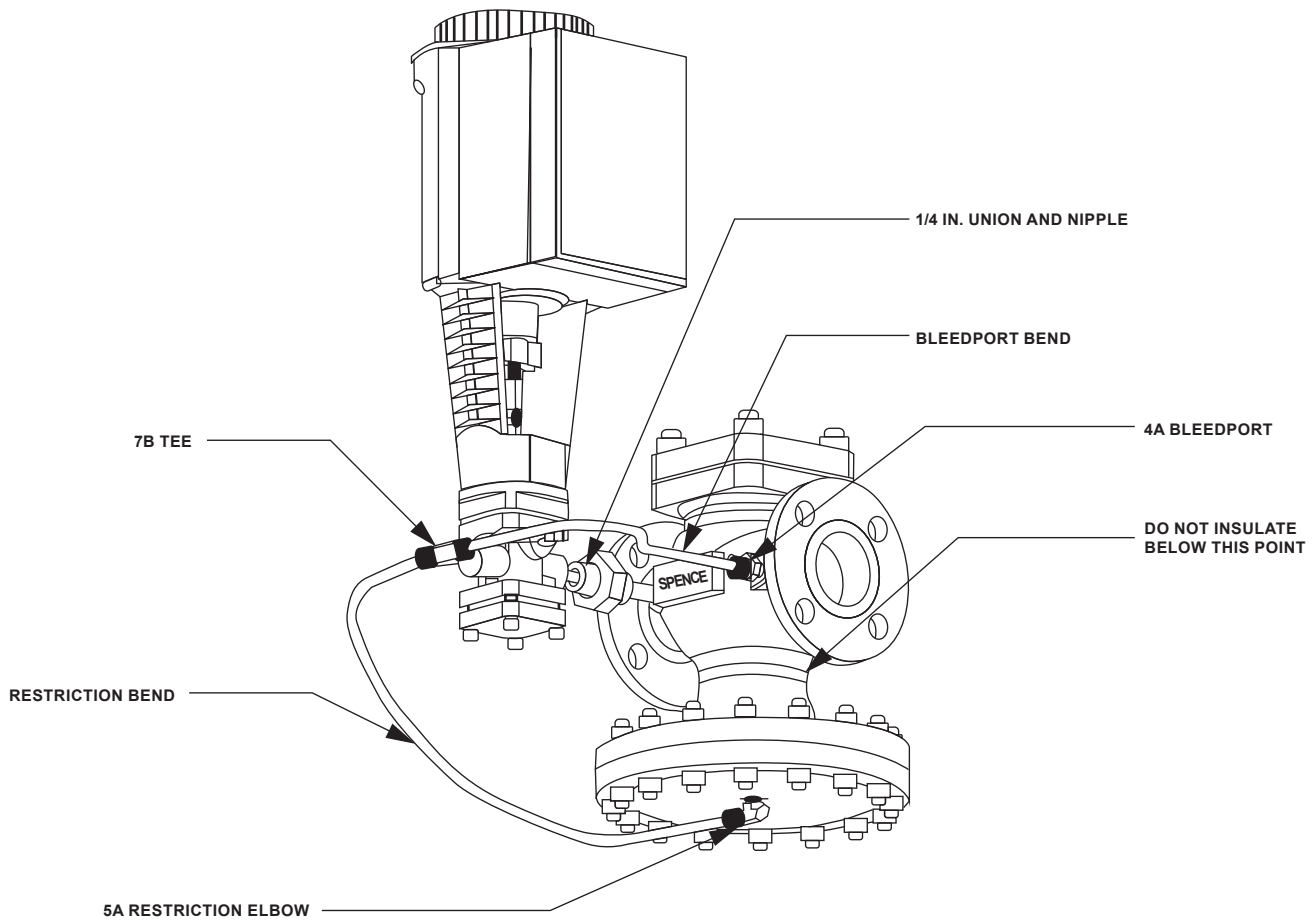

Figure 2. Type EVH210 Electronic Modulating, Pilot Operated Regulator
The Type VH210 is used with an E or C Series main valve. The typical configuration as shown in Figure 2 is the Type EVH210 electronic modulating, pilot-operated regulator.
Do not insulate the diaphragm chamber, condensation chamber (if used) or any part of the pilot. See Figure 2.
1. Mount Type VH210 pilot with the arrow on the body pointing in the direction of flow, on either side of the main valve, by means of the 1/4 in. nipple and union provided. Make this connection to the 1/4 in. pipe tap at the inlet of the main valve as shown in Figure 2. Remote mounting of Type VH210 pilot is recommended when the ambient temperature at the pilot exceeds 130°F / 54°C. Take caution to protect the electrical portion of Type VH210 pilot from any dripping condensate.
5. Connect the tubing bends as illustrated in Figure 2.